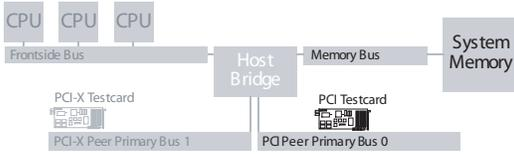

Figure 1
1. Plug the testcard in the bus that is connected to the host bridge, as shown in figure 1 below.